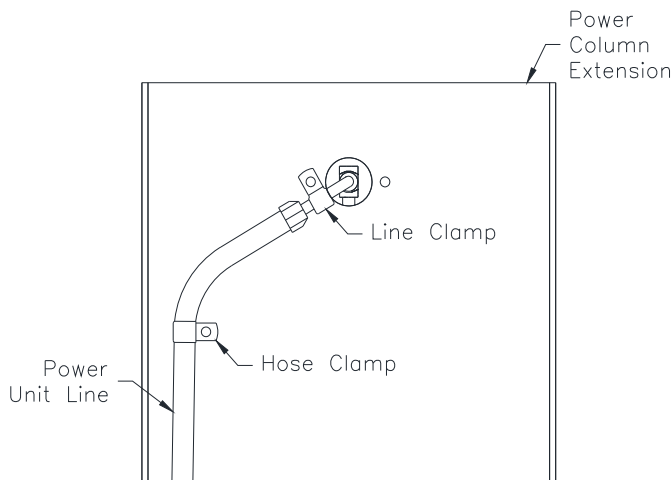

Fig. 13-Hose and Line Clamps
- 22) Install (1) hose clamp on the outside of the power column with a 3/8"-16 x 3/4" hex flange bolt and 3/8"-16 hex flange nut. Install (1) line clamp with a 1/4"-20 x 3/4" hex flange bolt and hex flange nut (**Fig. 13**).